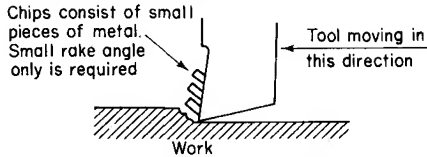

Fig. 4.51 Discontinuous chips are produced when brittle metals are cut
1. *Discontinuous chip* which is produced when brittle metals like cast iron are being cut. These chips appear as small pieces of metal or granules as shown in Fig. 4.51. There is little or no flow of metal over the face of the tool and hence when cutting brittle metals little or no rake angle is needed.